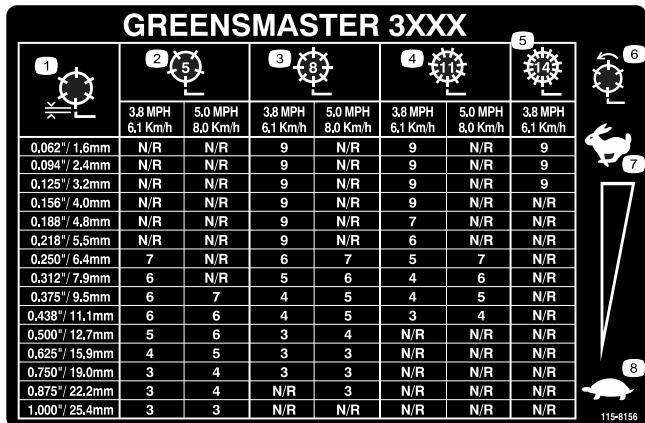

Figure 29
3. Using the appropriate graph (See Figure 29) for 5, 8, 11 or 14 blade cutting units, determine the proper reel speed setting.